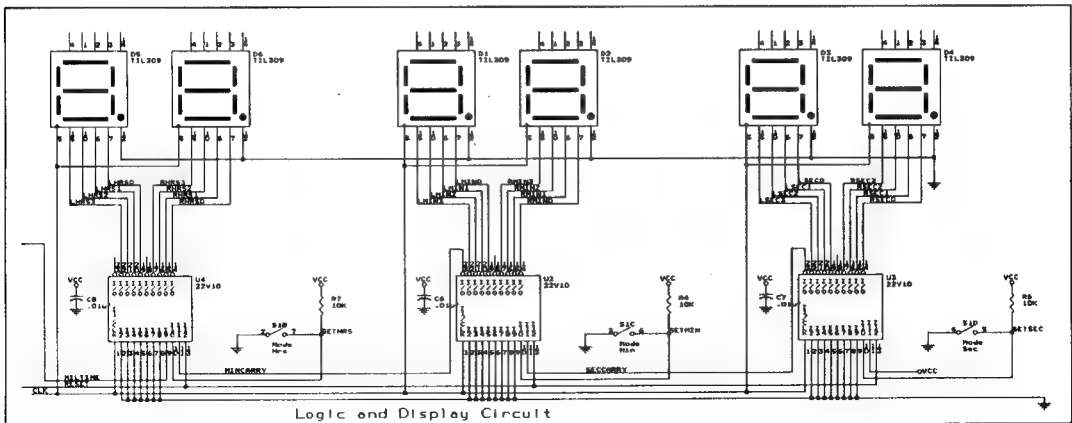
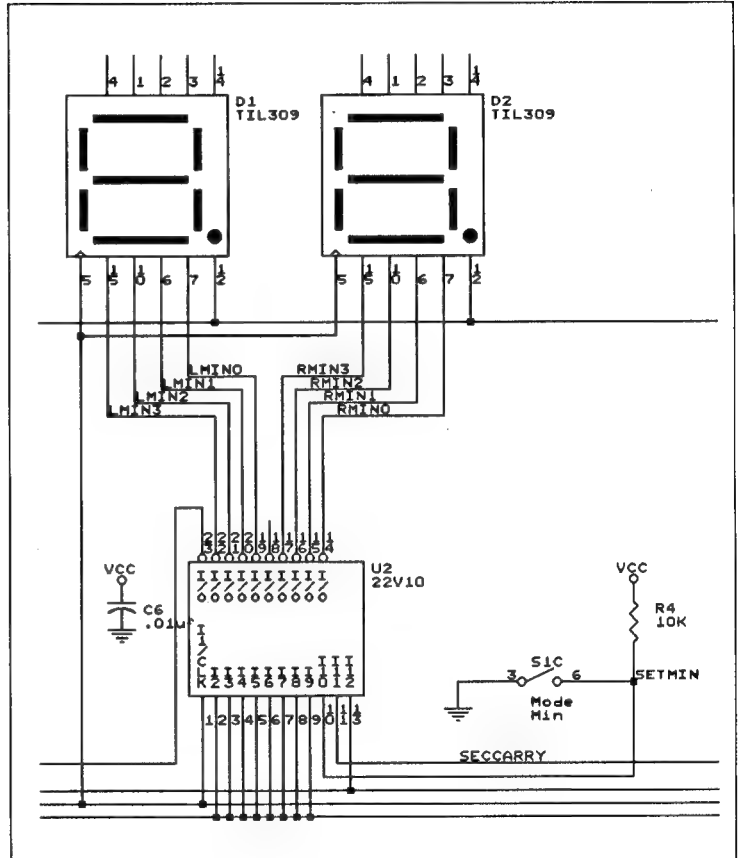

Figure 6-1. The logic and display circuitry.
Figure 6-2. The minutes circuit.
Figure 6-1 shows the portion of the schematic you capture in this chapter.
As you look at the schematic of the logic and display circuitry in figure 6-1, it becomes apparent that three regions are nearly identical—seconds, minutes, and hours. Take advantage of this duplication by creating the schematic for the minutes area (figure 6-2), and copying it to the other areas.
The display and logic circuit shown in figure 6-1 contains so much detail that your immediate task of capturing the minutes area may seem more difficult than it actually is. Figure 6-2 shows only the parts and wires associated with the minutes area of the schematic. By comparing figure 6-2 with figure 6-1, you see the similarities in each of the areas. The steps in the next section describe how to build the minutes circuit.
5. Select **Rotate** to change the part orientation to match the part orientation shown in figure 6-2.
2. Referring to figure 6-2, move the pointer to the bottom of the resistor symbol and select **Place Wire Begin** to start drawing a wire.
1. Referring to figure 6-2, draw the wires between the 22V10 part and the right-hand seven-segment display, as shown. Instead of pressing the <P>, <W>, and  keys, just press <F1>, and then proceed as usual.
2. Continue using the macro to draw the wires between the 22V10 part and the left-hand seven-segment display, as shown in figure 6-2.
3. Select **REPEAT** six more times to place the remaining wires of this length as shown in figure 6-2.
1. Select **PLACE Power Place** to put power symbols above the resistor and capacitor symbols, as shown in figure 6-2.
4. Place the remaining wires shown in figure 6-2.
5. Place junctions at the remaining locations shown in figure 6-2.
6. Examine your worksheet and carefully compare it with the schematic in figure 6-2. The exact position of objects is not as important as the presence or absence of these objects.